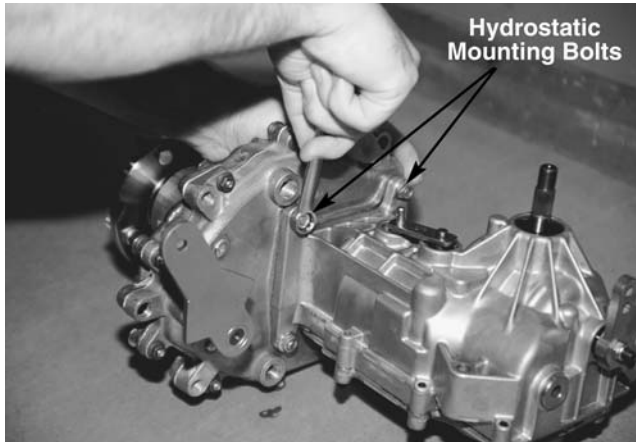

Figure 10-43
3. Separate the hydrostatic pump from the housing by using a 9/16 wrench and removing the four nuts securing the pump. See Figure 10-43.